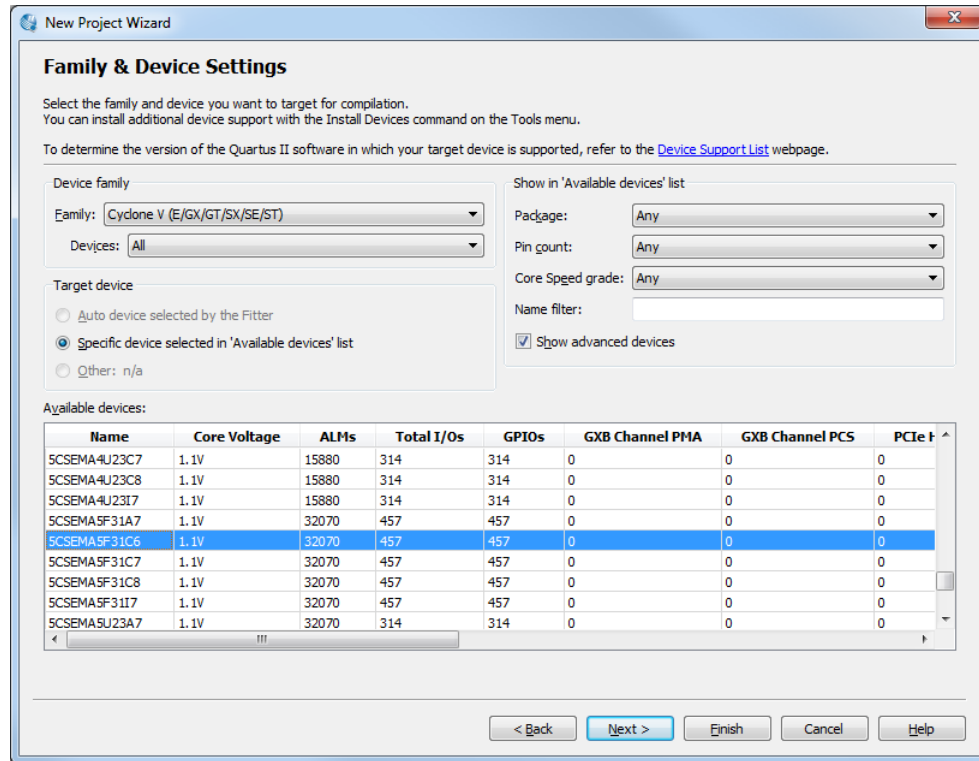

Figure 8: Choose the device family and a specific device.
4. This window makes it easy to specify which existing files (if any) should be included in the project. Assuming that we do not have any existing files, click **Next**, which leads to the window in Figure 8.